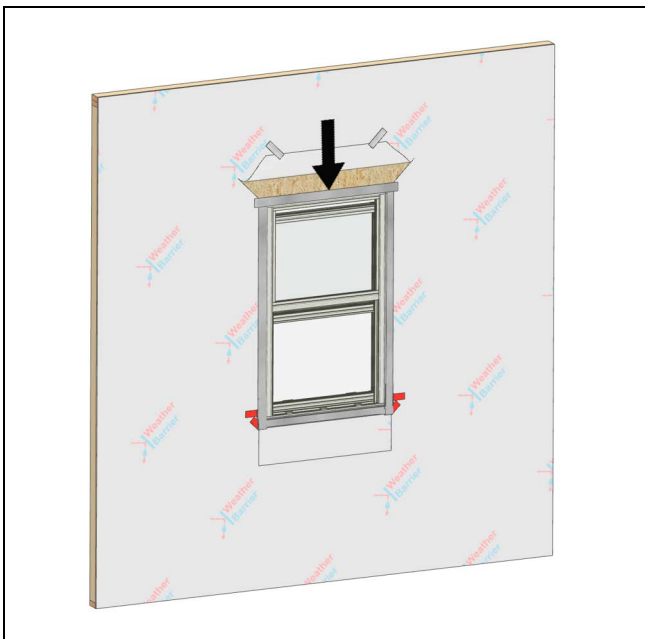
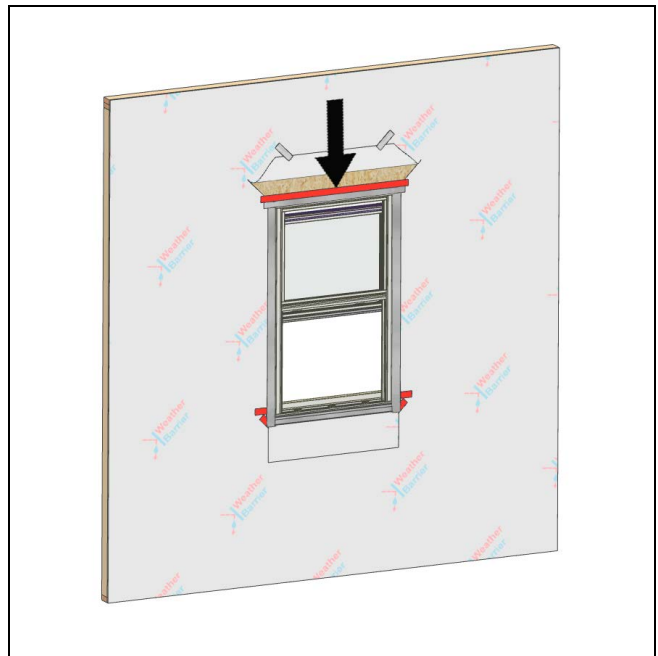

Figure 23
Figure 24
3. Install another layer of adhesive membrane lapping onto the head jamb of the unit and over the sheathing. The membrane flashing at the head jamb should extend and cover the flashing previously installed at the jambs. See Figure 23 and Figure 24.
4. Tape the top edge of the head jamb flashing with seam seal tape. See Figure 24.